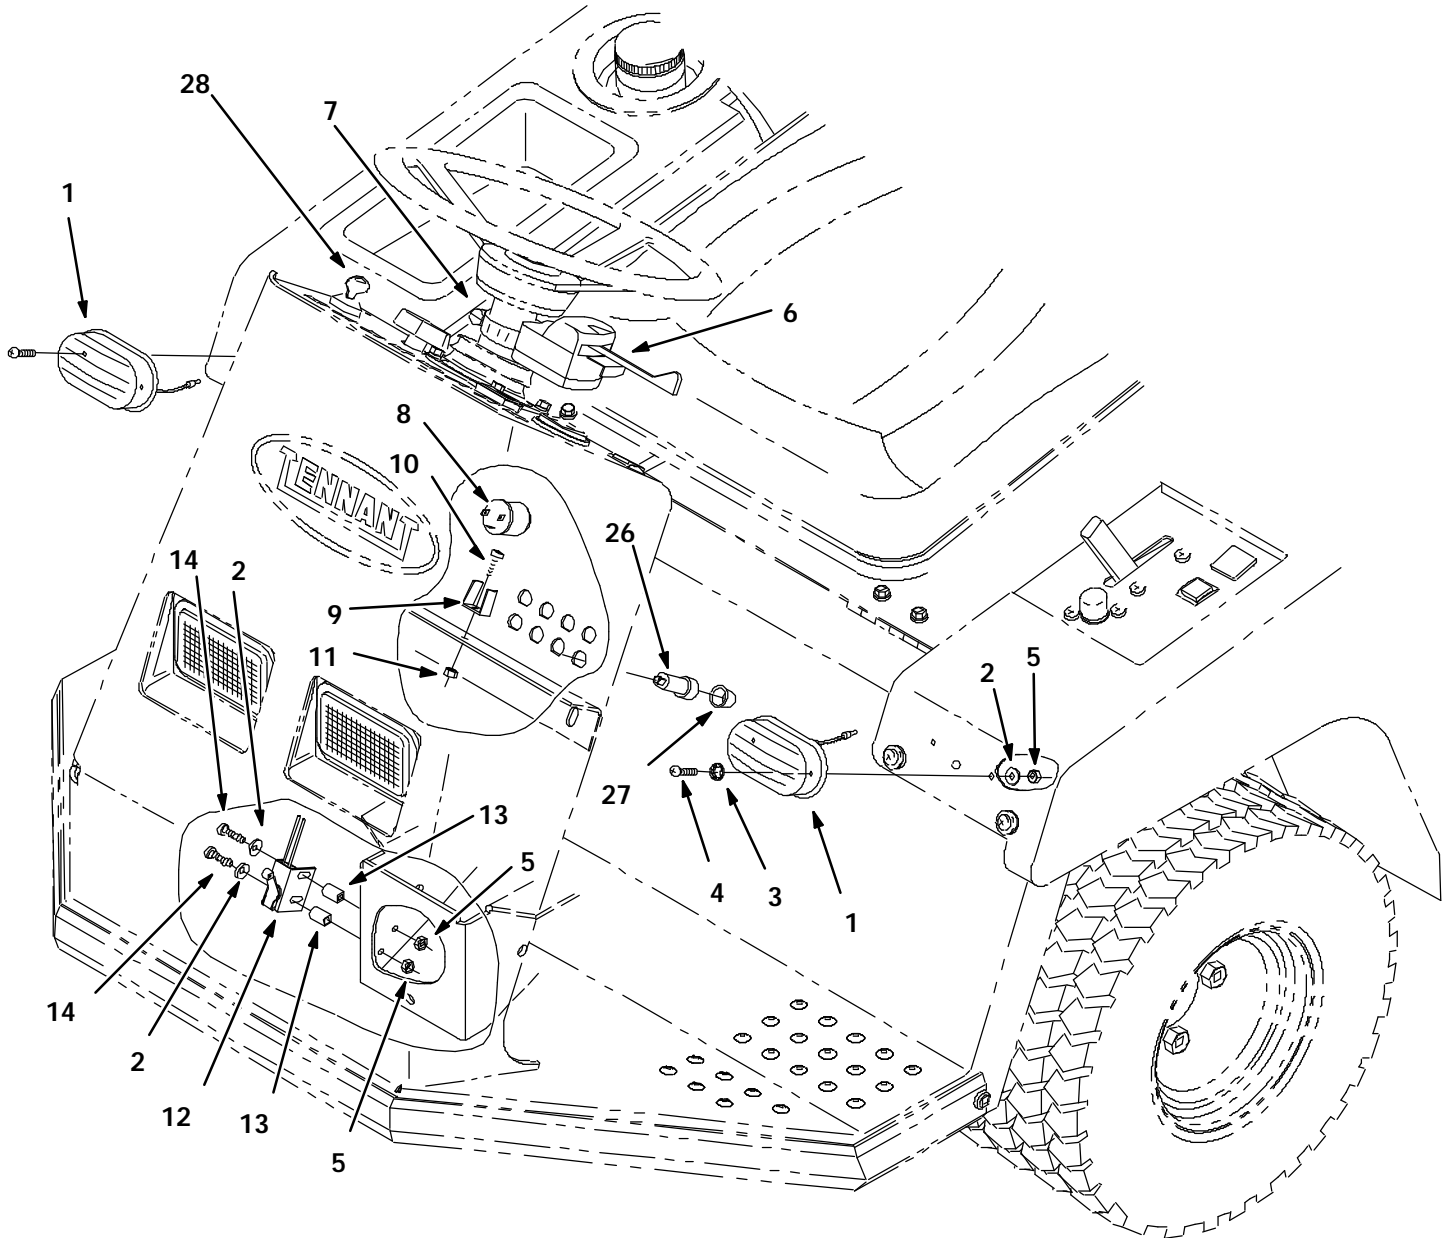
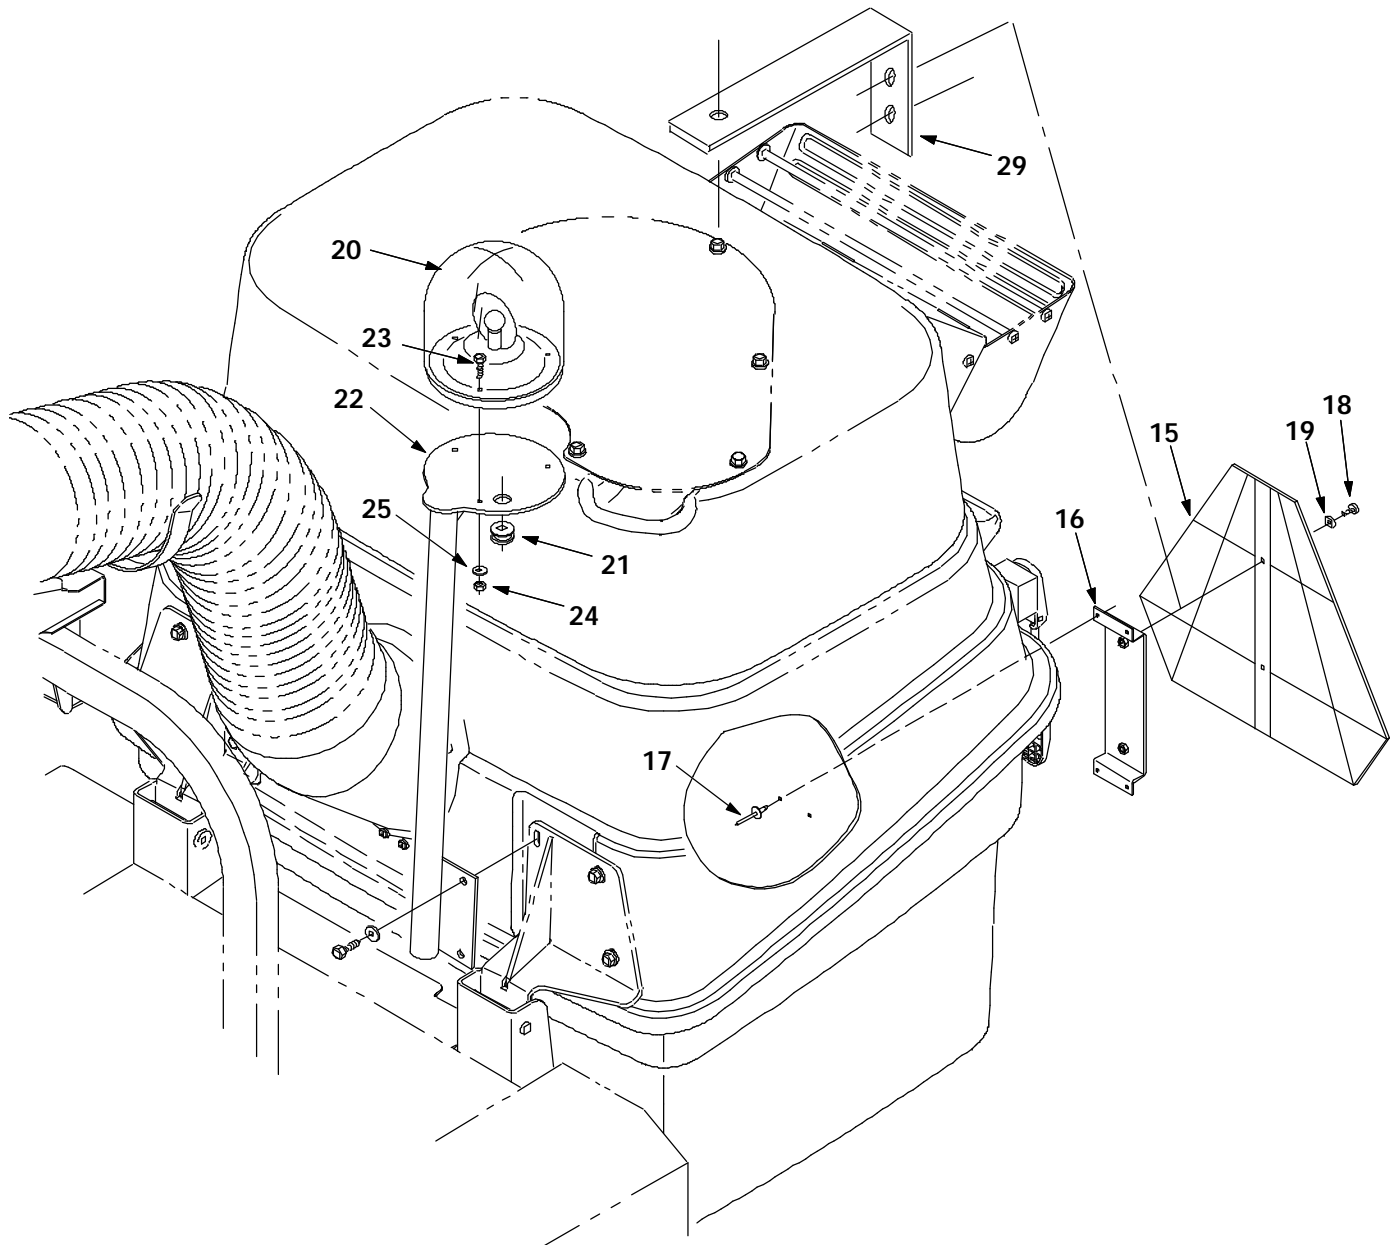
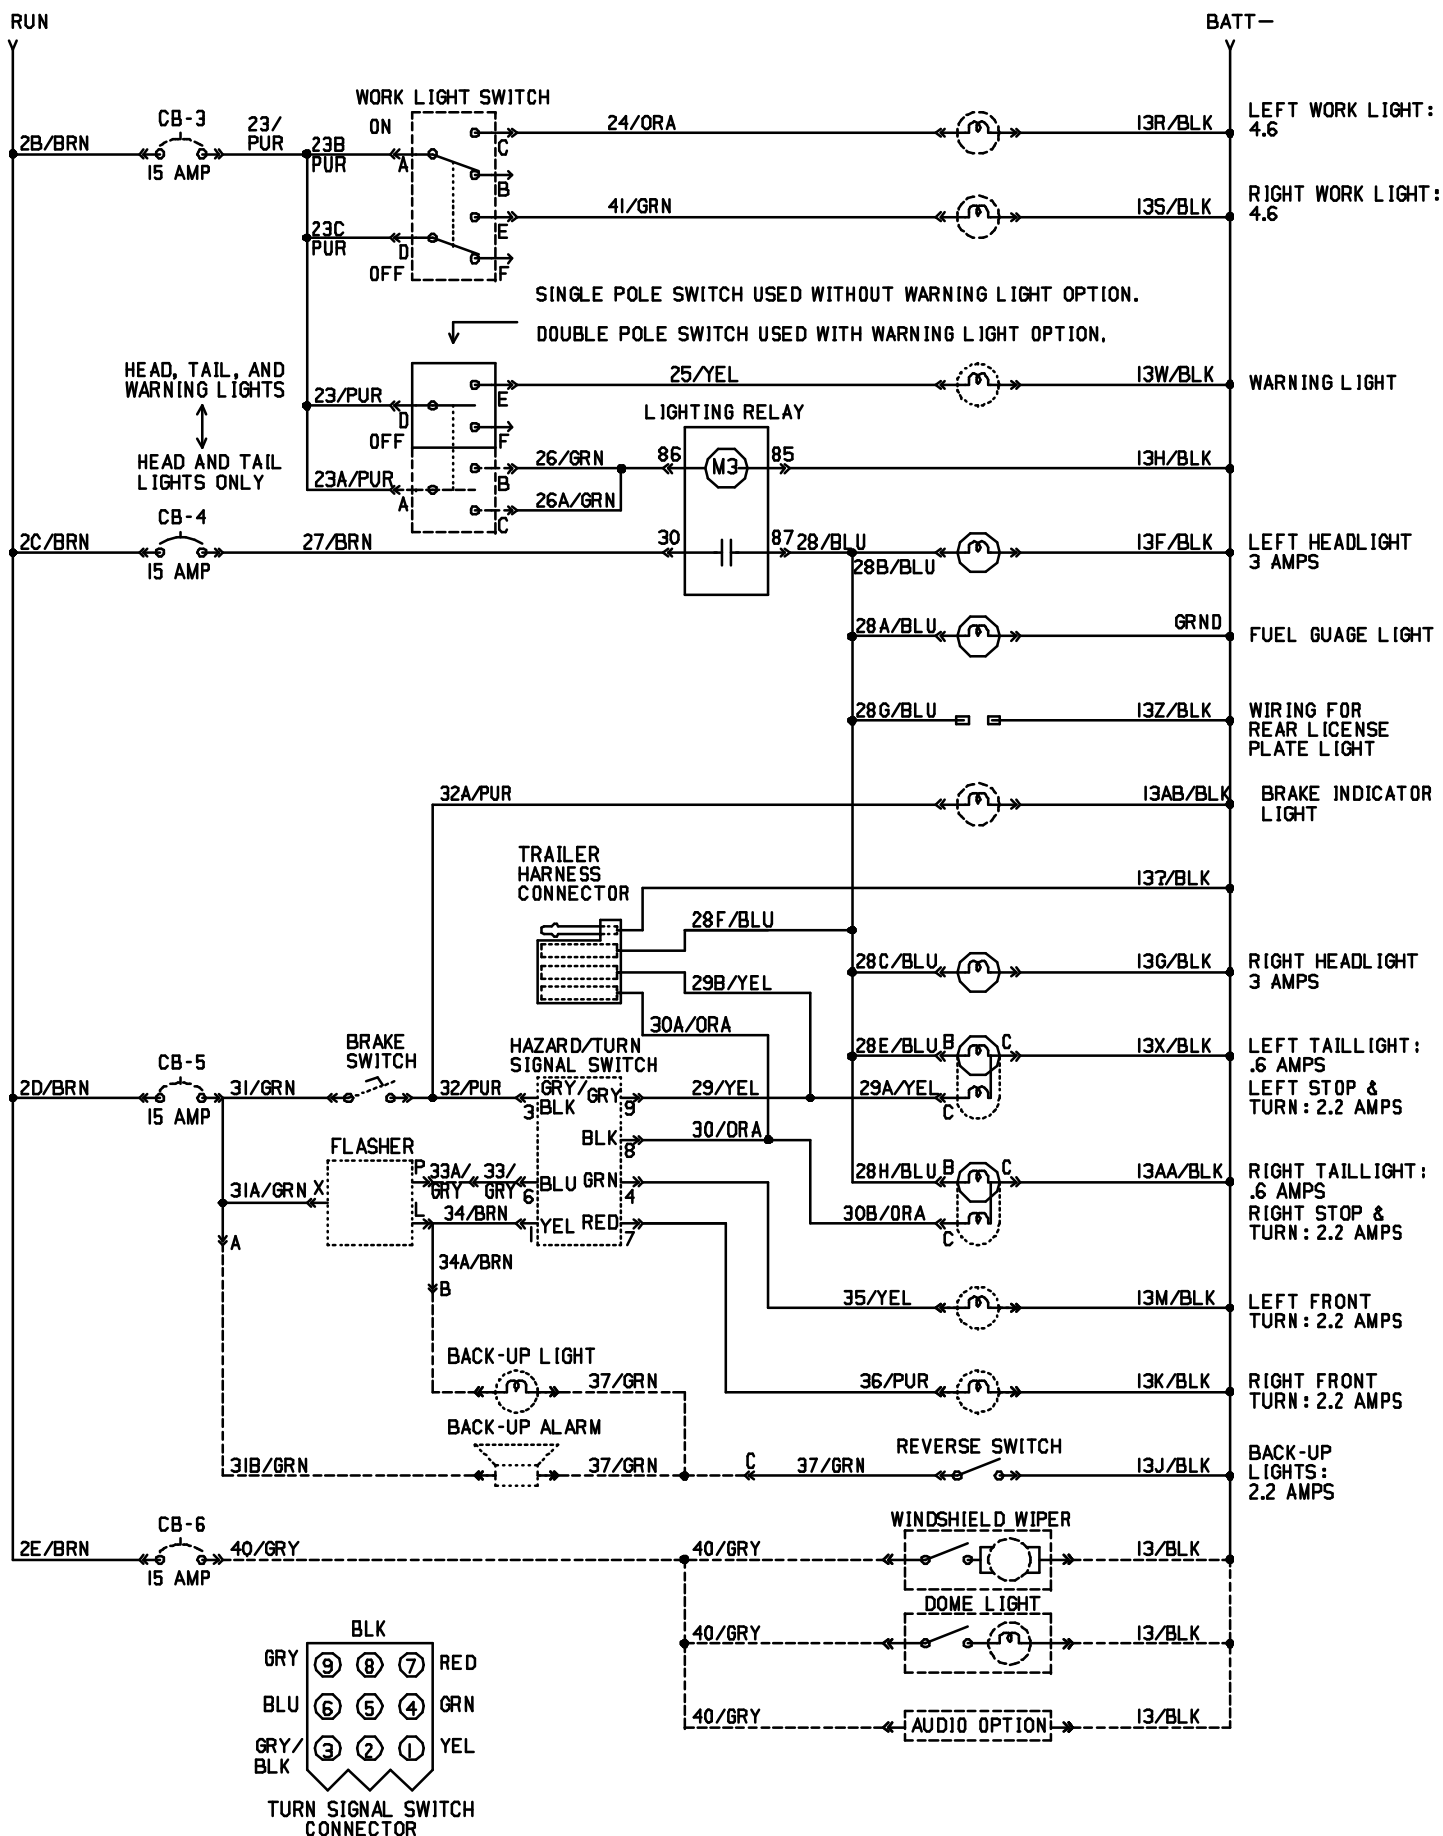

FIG. 3 - Road Package Kit (front)
FIG. 4 - Road Package Kit (rear)
FIG. 5 - Schematic
(Refer to FIG. 3 and 4)
1. Install the two light assemblies (1) onto the front of both machine panels using the pan screw (4), lock washer (3), flat washer (2), and nuts (5). (Refer to FIG. 3)
2. Install the turn signal assembly (6) onto the steering column using the worm drive clamp (7). (Refer to FIG. 3)
3. Install the flasher mount bracket (9) onto the front panel channel using the pan screw (10) and nyloc nut (11). Snap the flasher (8) into the mount bracket (9). (Refer to FIG. 3)
4. Install the brake roller switch (12) onto the side of the operators compartment using the two screws (14), flat washers (2), steel sleeves (13), and nyloc nuts (5). (Refer to FIG. 3)
5. Install the 15 amp circuit breaker (26) into the open mount hole in the instrument panel. Install the rubber boot (27) onto the circuit breaker (26). (Refer to FIG. 3)
6. Install the brake indicator light (28) into the dash panel (second slot from the right). (Refer to FIG. 3)
7. Install the warning lamp mount bracket (22) onto the left hand hopper cover hinge. (Refer to FIG. 4)
8. Install the rubber grommet (21) into the larger hole in the top of the mount bracket (22). (Refer to FIG. 4)
9. Install the rotating lamp assembly (20) onto the top of the mount bracket (22) using the three hex screws (23), flat washers (25), and nuts (24). Route the wires from the light (20) through the rubber grommet (21). (Refer to FIG. 4)
11. Use the label bracket (16) as a template to mark and drill four mount holes in the center, back of the hopper assembly. (Refer to FIG. 4)
12. Attach the label plate (15) to the mount bracket (16) using the two screws (18) and flat washers (19). (Refer to FIG. 4)
13. Use the four pop rivets (17) to attach the mount bracket (16) and label plate (15) to the back of the hopper. (Refer to FIG. 4)
14. Use the mounting bracket (29) to attach the label plate (16) when equipped with the long white filter bag. (Refer to FIG. 4)
(Refer to FIG. 3, 4, and 5)
1. Locate the turn signal connector in the main harness under the dash panel. Cut any plastic ties holding the connector wires to the main harness. Plug the main harness connector into the connector on the turn signal assembly. (Refer to FIG. 3 and 5)
2. Locate the flasher (8) wires (31A/GRN, 33A/GRY, 33/GRY, and 34/BRN) tied up in the main harness under the dash panel. Connect the wires to the flasher (8) according to the schematic in Fig. 5. (Refer to FIG. 3 and 5)
3. Locate the brake switch (12) wires (31/GRN, 32/PUR, and 32A/PUR) tied up in the main harness under the dash panel. Connect the wires to the brake switch (12) according to the schematic in Fig. 5. (Refer to FIG. 3 and 5)
4. Connect the left, front light (1) to the wires (35/YEL and 13M/BLK). Connect the right, front light (1) to the wires (36/PUR and 13K/BLK)
5. Locate the circuit breaker (26) wires (2D/BRN and 31/GRN) tied up in the main harness under the dash panel. Connect the wires to the circuit breaker (26) according to the schematic in Fig. 5. (Refer to FIG. 3 and 5)
6. Locate the warning light (20) wires (25/YEL and 13S/BLK) tied up in the main harness near the front of the hopper. Connect the wires to the warning light (20) according to the schematic in Fig. 5. (Refer to FIG. 4 and 5)
7. Locate the indicator light (28) wires (32A/PUR and 13AB/BLK) tied up in the main harness under the dash panel. Connect the wires to the indicator light (28) according to the schematic in Fig. 5. (Refer to FIG. 3 and 5)